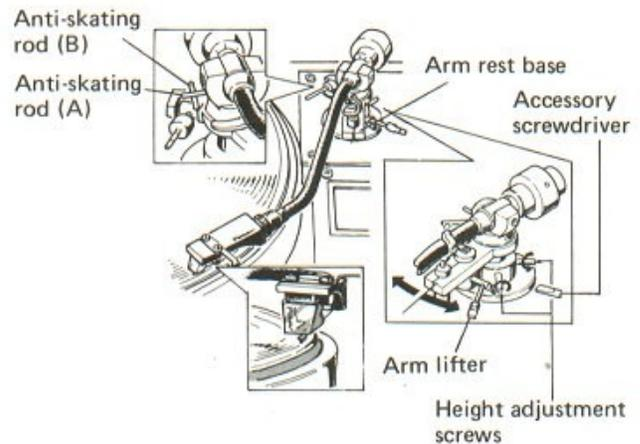

Fig. 9
Place a 30cm record on the platter. Lower the arm lifter and allow the stylus tip to settle gently into the outside record groove. Loosen the height adjustment screws and adjust to a position which permits anti-skating rod operation (position where the rod (A) & (B) touch each other. See Fig. 9).